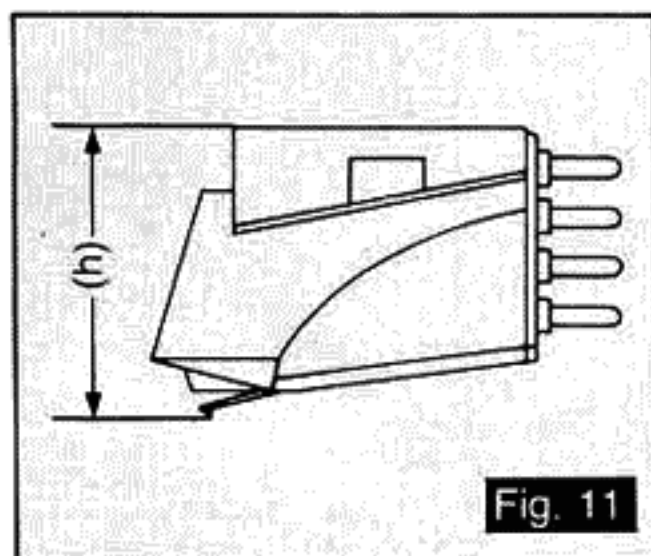
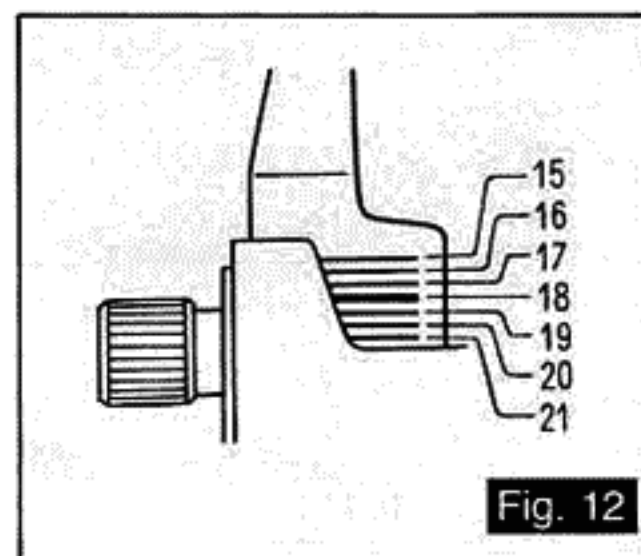

Fig. 11
Fig. 12
- If the cartridge height is 18 mm as shown in figure 11, align the fourth line ("18") on the gimbal support portion with the arm base edge as shown in the picture. (See Fig. 12).